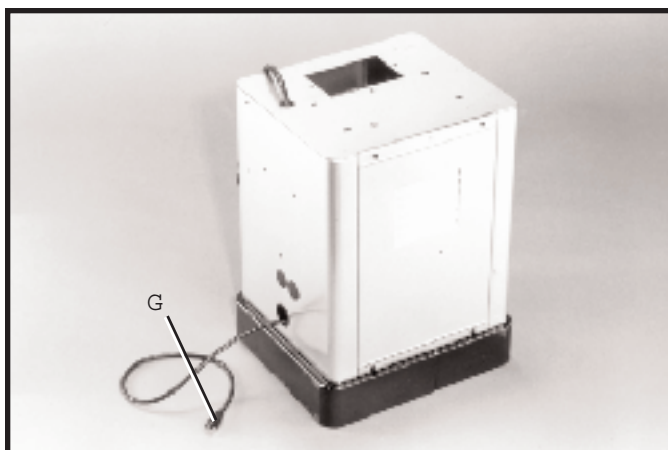

Fig. 12
3. Insert power cord plug (G) Fig. 12, through the bottom hole of the band saw stand to the outside of the stand.